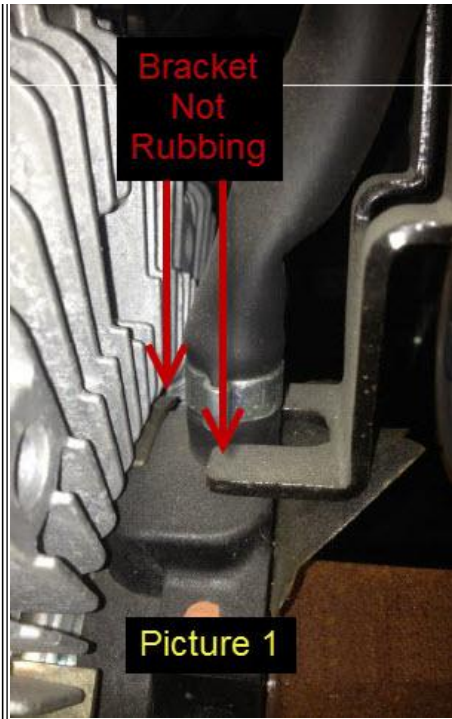
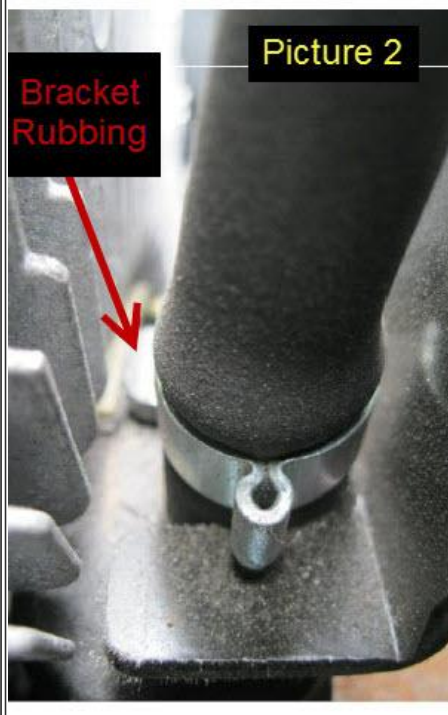

Figure 1
Figure 2
2. Check to see if ARB is touching the target wheel. Refer to *Figure 1* and *Figure 2*.
- If it is touching, reposition ARB to clear the target wheel as shown in *Figure 1*.